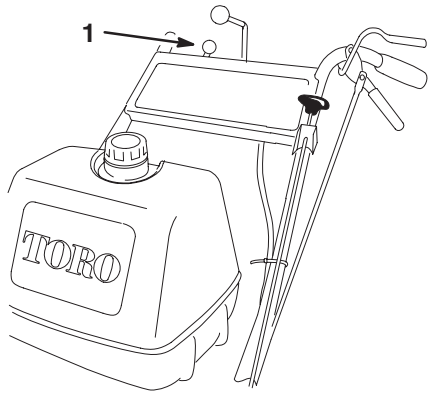

Figure 20
1. Move the throttle lever to slow (Fig. 20).
- To stop the engine, pull the throttle all the way back to stop (Fig. 20).
4. Stop the engine by pulling the throttle all the way back to stop (Fig. 20).